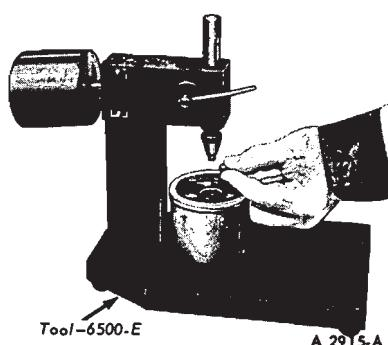

FIG. 7—Placing Steel Ball in Valve Lifter Plunger
3. Place a 5/16-inch steel ball in the plunger cap (Fig. 7).